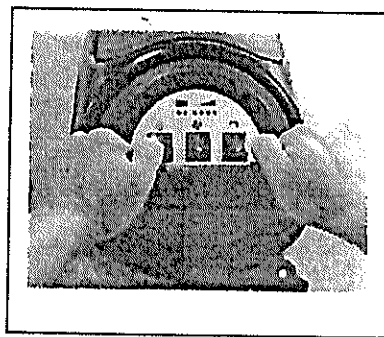

FIGURE 6
2. Hold the on / off switch (1) (Figure 6), push to move the machine, and start the scrubbing.